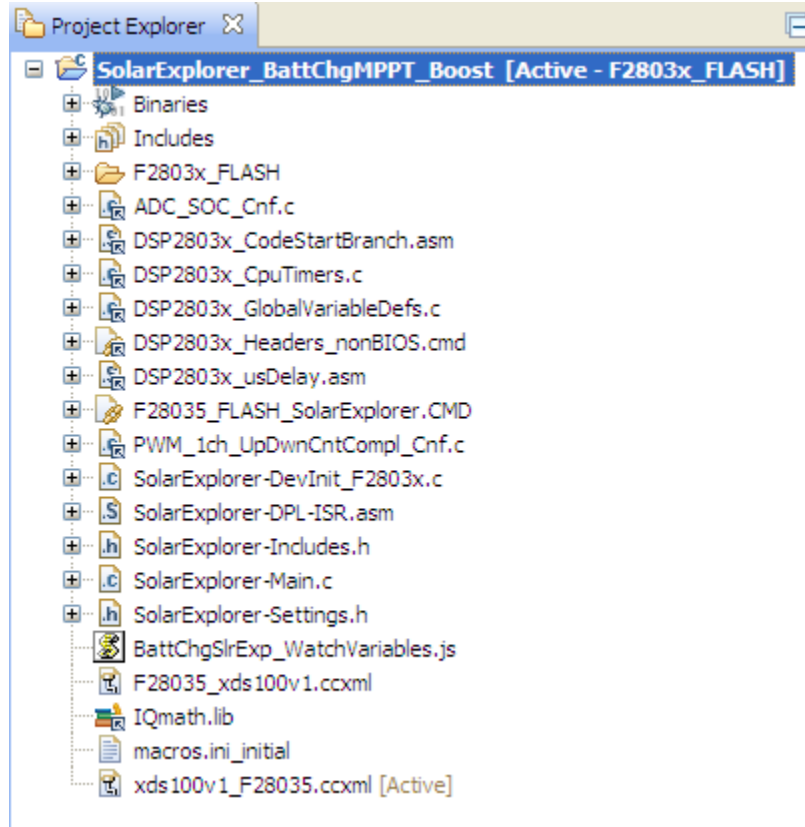

Fig 14 PV Inverter project in C/C++ tab
8. Fig 14 shows the project in the CCSv4 C/C++ Project tab, it shows all the key files used in the project.